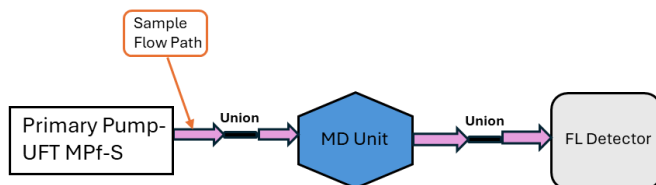

Figure 1. Proteometer-UFT Single Pump installation
The HPLC configuration for Proteometer UFT is shown in Figure 1. It is important to keep the dead volume of the system at a minimum by using the zero dead volume unions (Section B.5) provided and using minimal length of connection tubing. By minimizing the flow-path, it is ensured that the sample peak is captured within a run-time of 1.5 minutes.
2. Before installing MD unit, install Mobile Phase UFT-MPf-S on the HPLC system. Install the MD Unit (Section B.4) on the HPLC system in line with the fluorescence detector as shown in Figure 1.